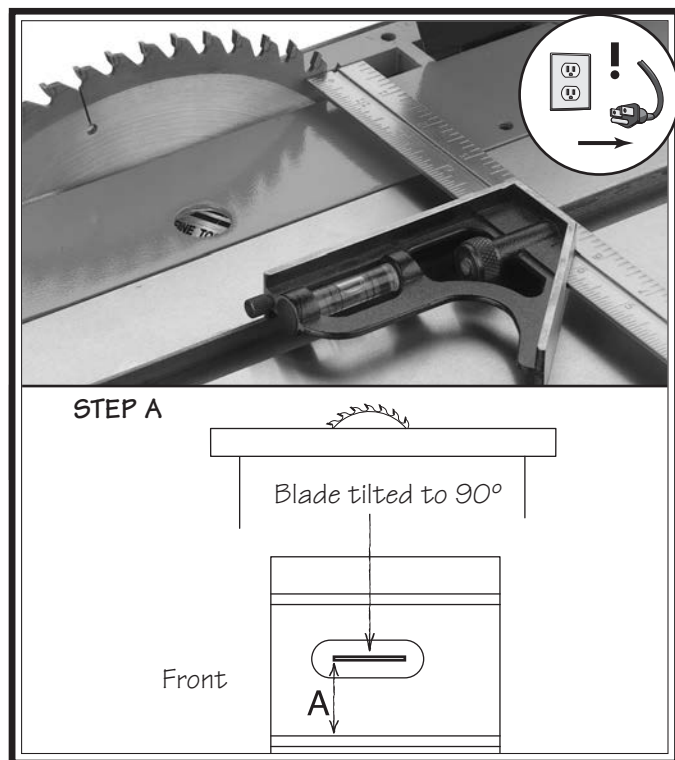

Figure 123. Example of adjusting blade to miter slot.
2. Tilt blade to 0°, then use an adjustable square to measure distance from miter slot to a blade tooth, as shown in **Figure 123**. Make sure that face of adjustable square is even along miter slot.